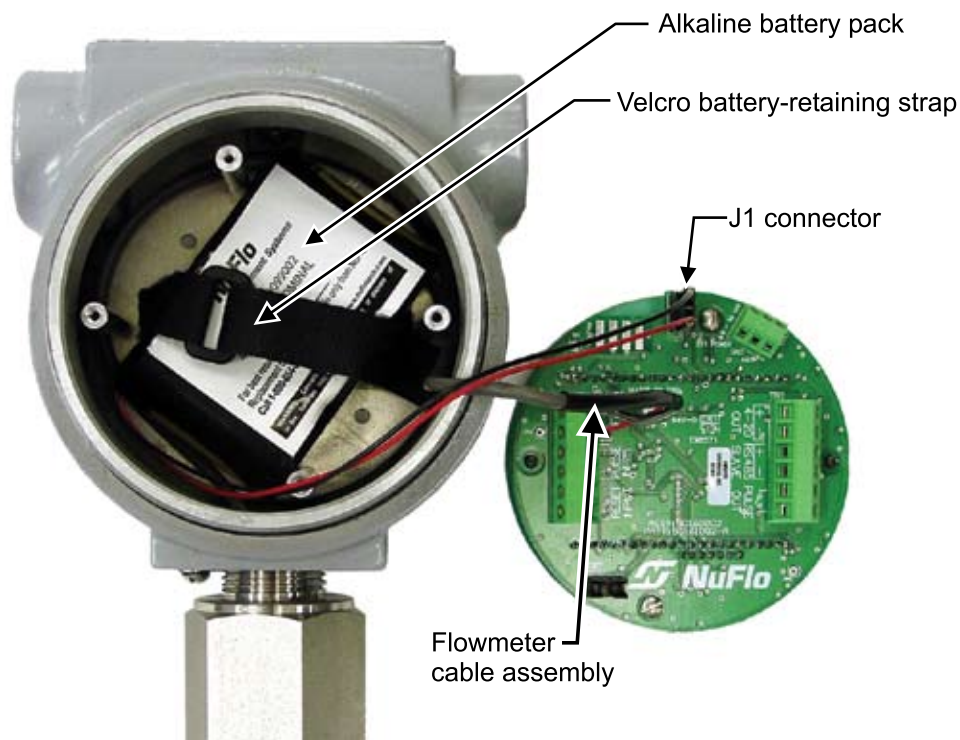

Figure 6.4—Removal/replacement of alkaline battery pack
4. Loosen the Velcro strap, disconnect it from the J1 connector on the circuit assembly, and remove the battery from the enclosure (Figure 6.4).
5. Install the new shrink-wrapped battery pack in the same position as the original battery pack as shown in Figure 6.4, page 88, and secure the Velcro strap to hold the pack tightly in place.